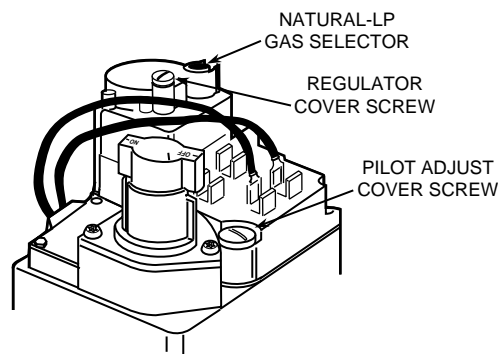

Figure 6. Gas valve top
To adjust the pilot flame, remove the pilot adjust cover screw and gasket (see fig. 6) to expose adjusting screw. **To REDUCE pilot flame**, turn the pilot adjust screw clockwise. **To INCREASE pilot flame**, turn the pilot adjust screw counterclockwise. Replace and tighten cover screw and gasket.
3. Remove "Reg. Adj." cover screw (see fig. 6).